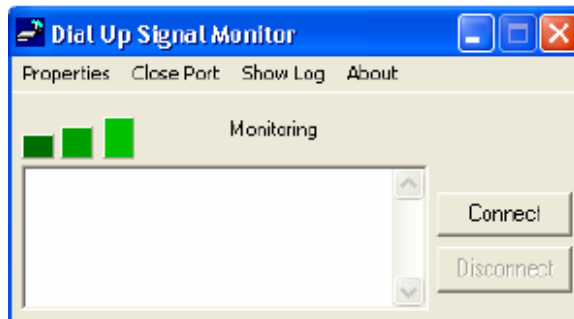

Figure 24. Dial Up Signal Monitor – Three Bars Signal Strength Displayed
- (3) Verify minimum signal strength of the Iridium® Modem.
- (a) Minimum signal strength should be three bars (see Figure 24).